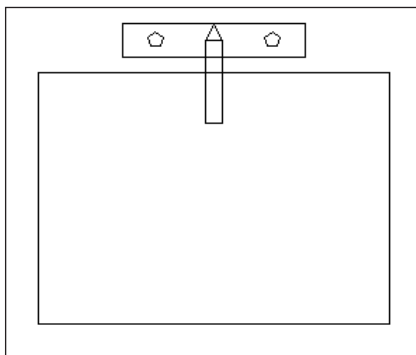

Figure 6-3: The completed sink, drawn by using rectangles and polygons
17. Turn off the grid to get a better look at the drawing. You have completed the sink, which should look like Figure 6-3. Save your drawing.